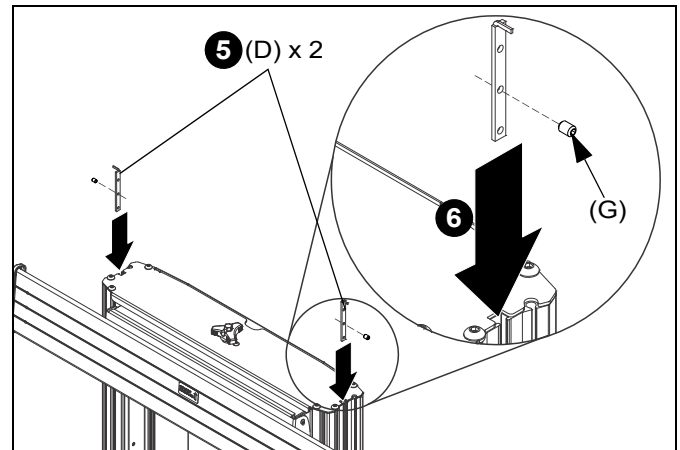

Figure 4
5. Loosely install one 1/4-20 x 3/8" set screw (G) into middle hole of each accessory bracket (D). (See Figure 4)
6. Slide accessory bracket (D) down side channel to desired height and tighten set screw. (See Figure 4)